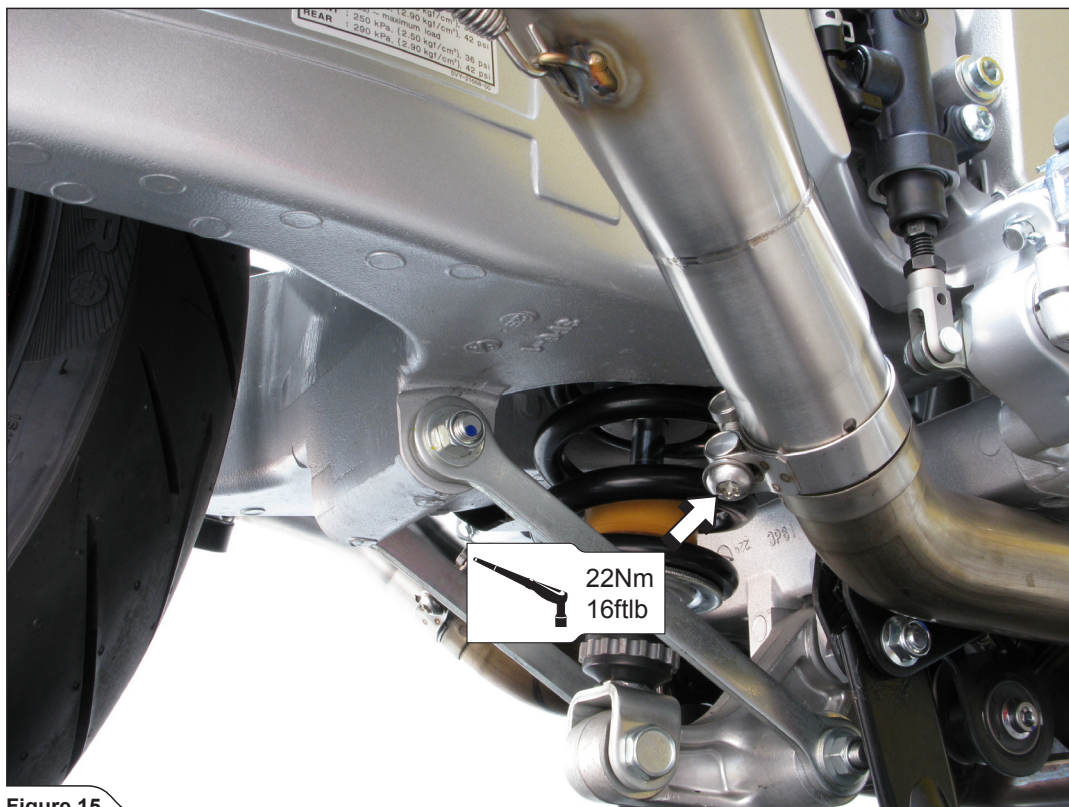

Figure 15
7. Tighten both metal clamps at the Akrapovič link pipes/collector joint to a specified torque (Figure 15, 16).